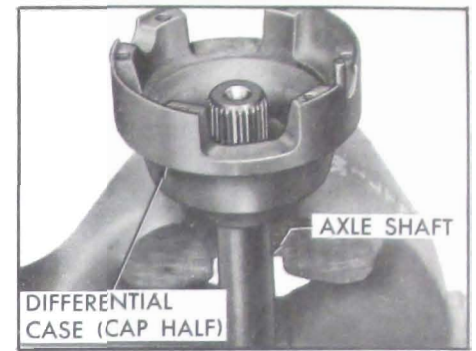

Figure 6-39—Axle Shaft & Cap Half of Differential Positioned in a Vise
1. Clamp one axle shaft in a vise allowing three inches to extend above vise jaws. Then place the cap side of differential case over extended axle shaft with interior of case facing up. See Figure 6-39.